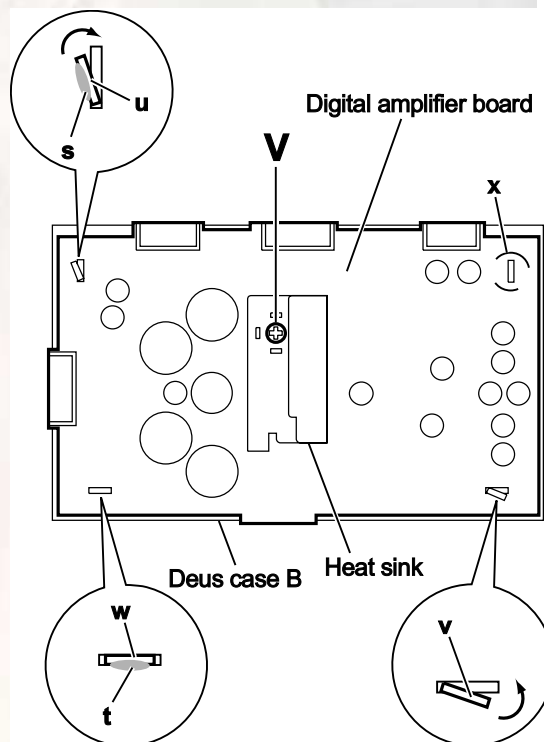

Fig.20
(6) Remove the screw **V** attaching the heat sink. (See Fig.20.)
(7) Remove the solder from the soldered sections (**s,t**) attaching the digital amplifier board to the deus case B and bend the joints (**u,v**) in the direction of the arrow. (See Fig.20.)
(8) Take out the digital amplifier board from the deus case B.
When attaching the digital amplifier board to the deus case B, fit the joints (**u,v,w,x**) of the deus case B to the holes of the digital amplifier board. (See Fig.20.)